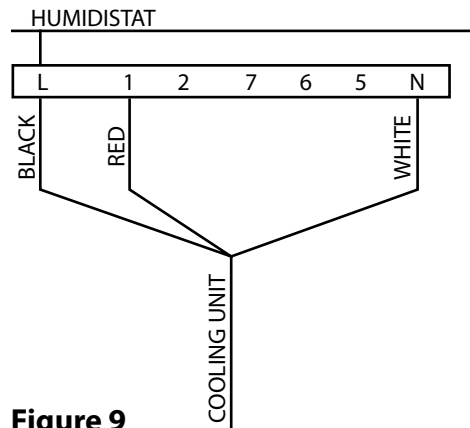

Figure 9
1. Connect the electrical wires to the corresponding terminals on the terminal block following the circuit diagram inside the top cover of the unit. **See Figure 9**